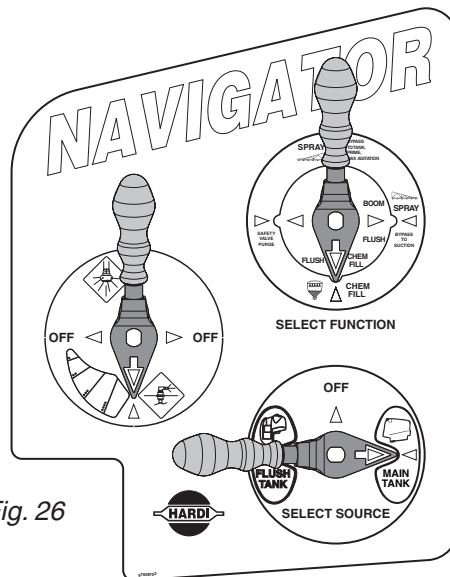

Fig. 26
- 3 Turn the Select Source handle to MAIN TANK. Turn the Select Function handle to CHEM FILL and turn the Variable Agitation handle straight down for maximum flow through the agitation nozzles (Fig 26).